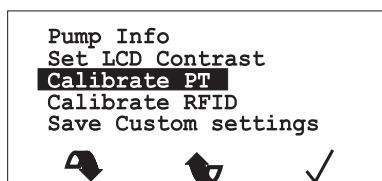

Figure 25 - LCD Display - Calibrate PT
- 8.5 Press the “hidden” **Service** button on the membrane panel (Refer to Page 5, Section 4) to access the service screen on the LCD display (Refer to Figure 25).